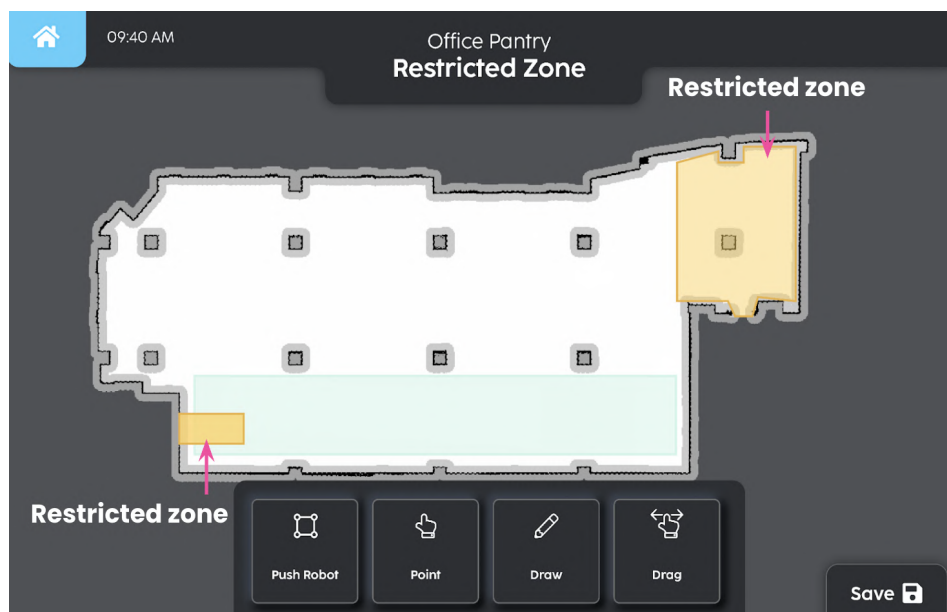

FIGURE 5-7
1. It is important to create restricted zones for safety (**Fig. 5-7**)!